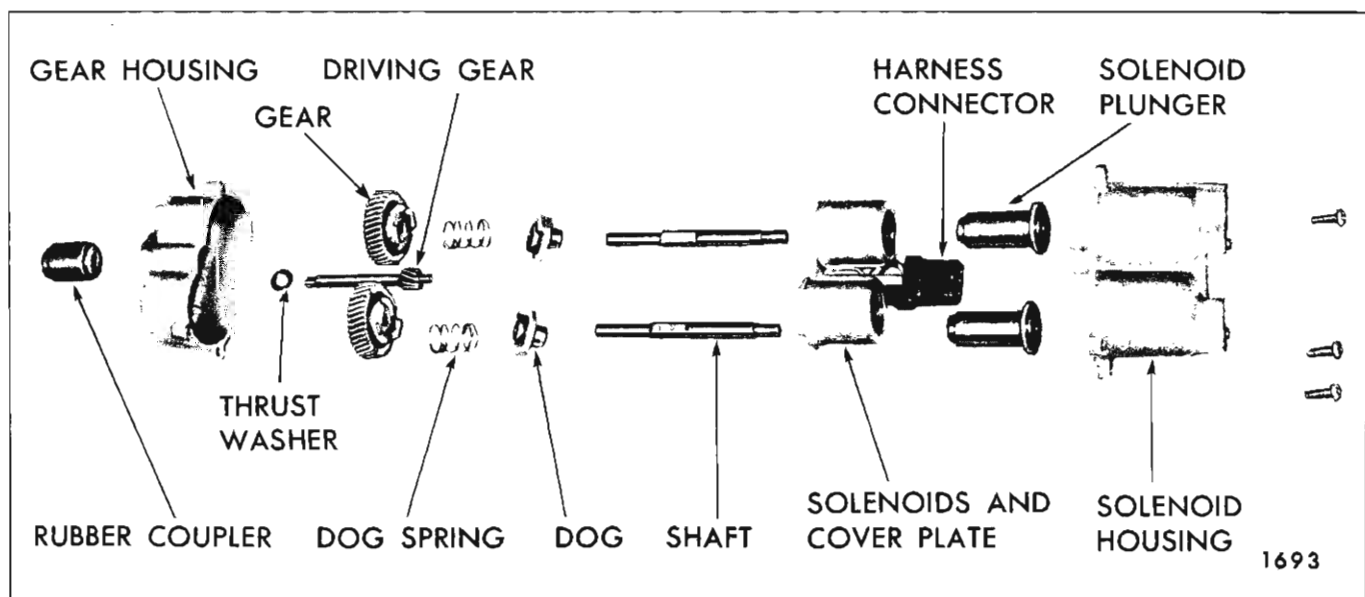

Fig. 1H9—Four-Way Seat Adjuster Transmission
2. Remove screws securing gear and solenoid housings together; then, carefully separate housings and remove component parts of transmission assembly (Fig. 1H9).